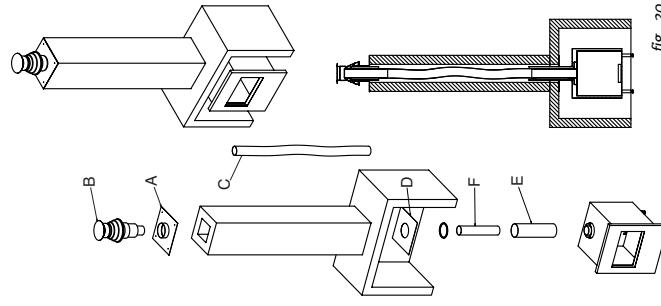

Fig. 20
- Chimney connection set part number A9225000 Fig 20 part D